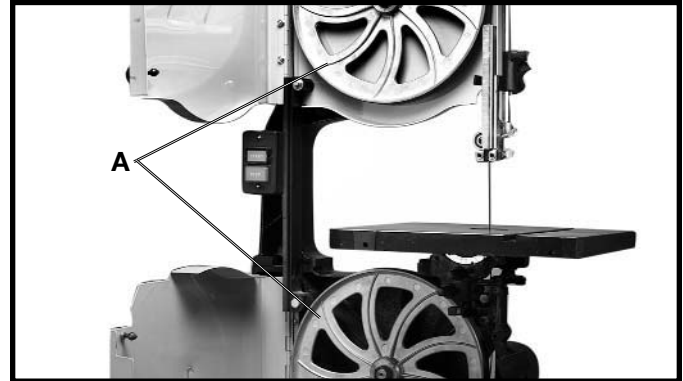

Fig. 21
7. Place the blade around the two wheel assemblies (A) Fig. 21.